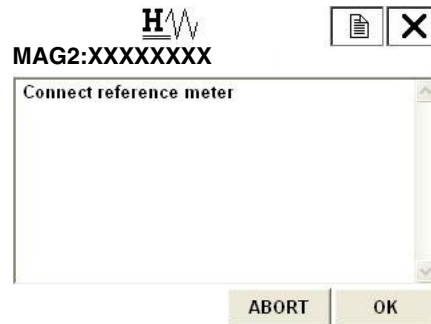

Figure 121.
2. Figure 121 then appears. Connect the device to measure the pulse output, and then press F4 (OK).